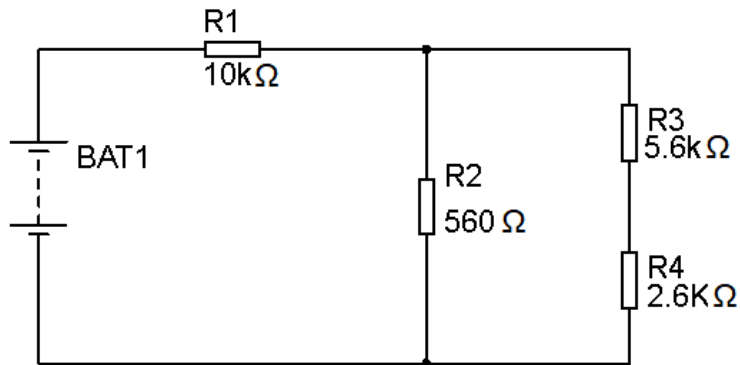

Figure 6 - Circuit 3
c) Find the total resistance of the circuit shown in Figure 6 below. Show all your working.